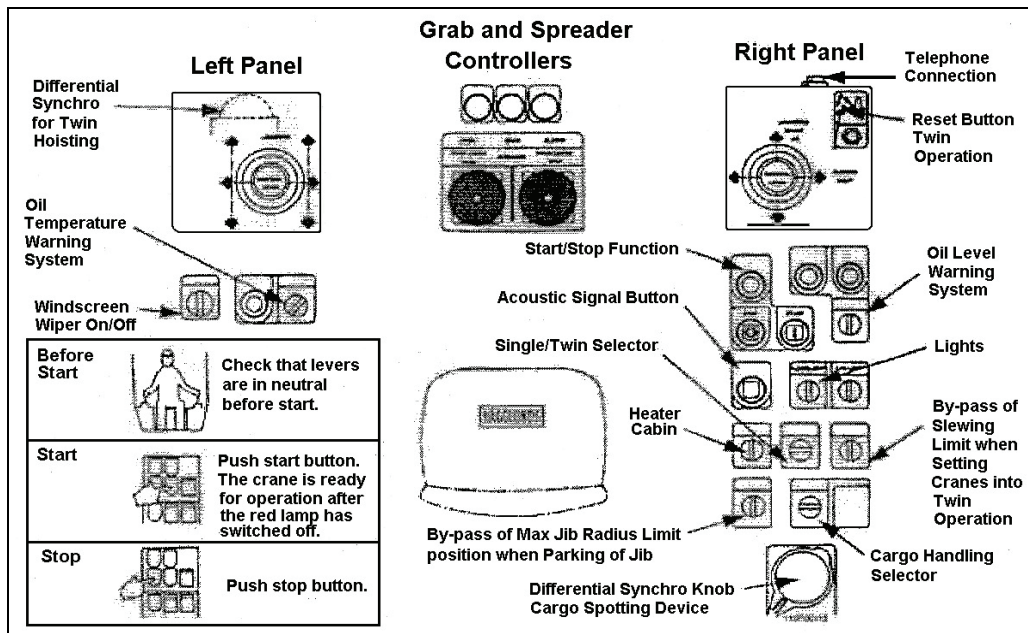

Figure 3-122. Setup Procedures for Single Mode Operations
1. Execute the procedures required to direct the setup procedures on a Haggglunds crane for single mode operations (see Figure 3-122).